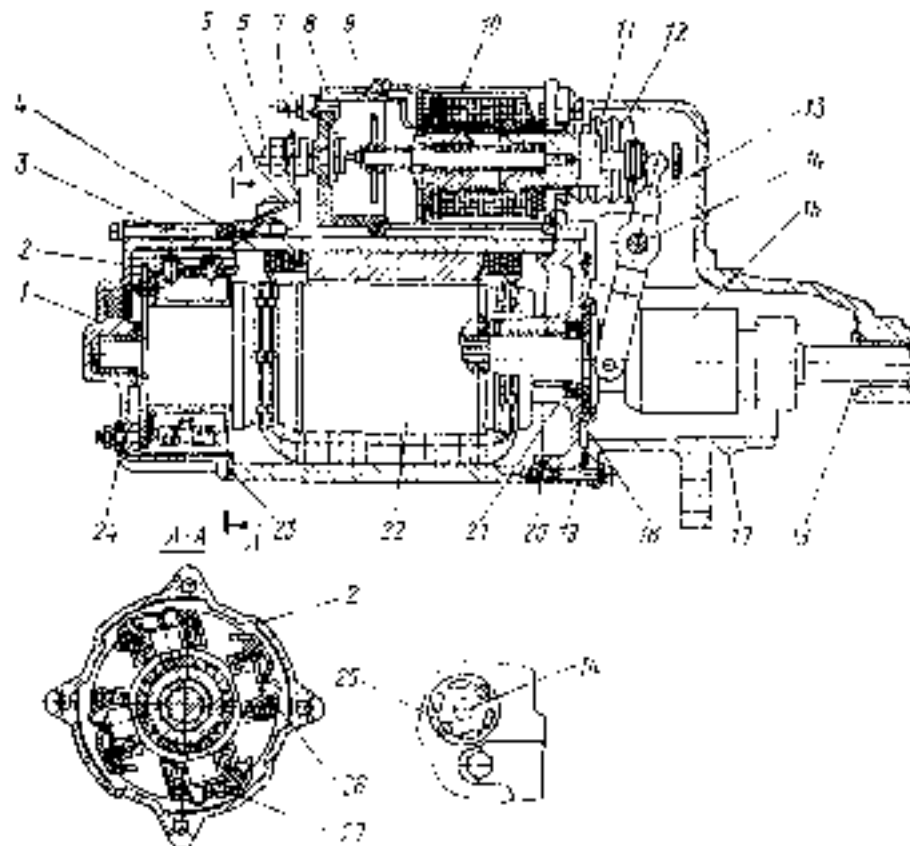
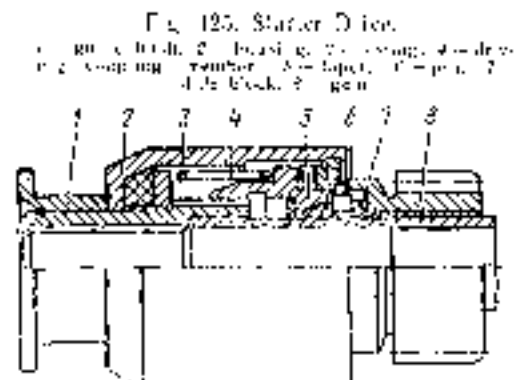

Fig. 124. Starter.
Fig. 125. Starter Drive.
Drive 15 (Fig. 124) shafts on the shaft of armature 22 in longitudinal splines. The drive consists of housing 2 (Fig. 125) driving coupling member 4, gear 8 with a driven coupling member, spring 3, bush 7 with spiral splines and a mechanism used for centrifugal disengagement of the coupling member. The drive housing is packed with grease.
The starter is sealed with packing elements placed at the joints of outer parts of the starter and relay. The starter motor is protected against ingress of dirt from the flywheel case with the help of collar 21 (see Fig. 124) fitted in intermediate bearing holder 18. The traction relay is protected against dirt and water by means of bellows 12.
1. Undo the nuts and remove jumper 5 (see Fig. 124) that connects the relay with the body.